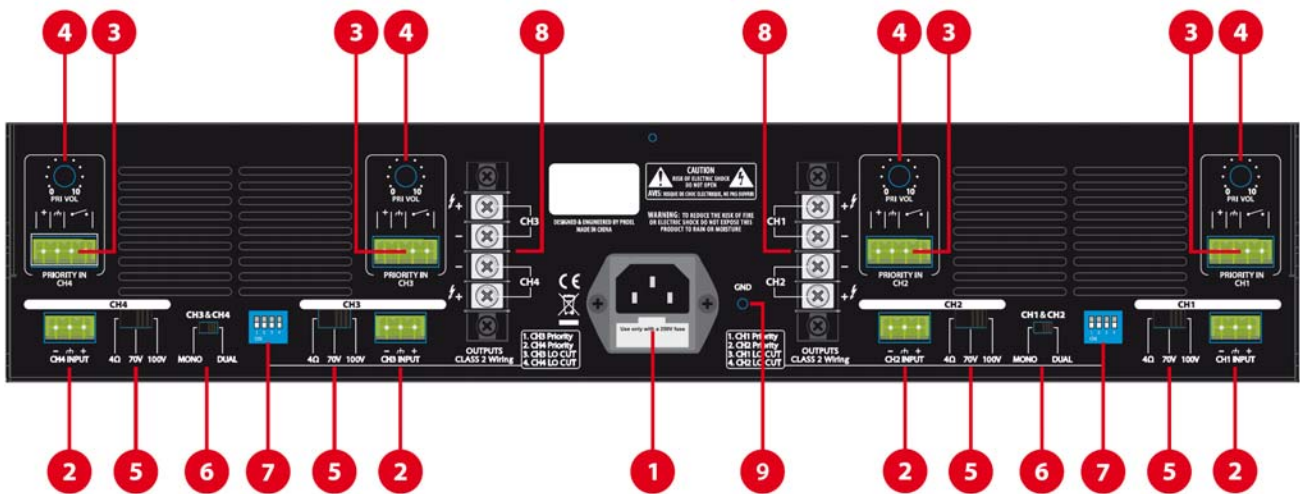

fig. 2
Connect loads having minimum electrical impedance of not less than 4Ω to the output terminal (**Fig. 2, Ref. 8**)
Connect loads of 70V to the output terminal (**Fig. 2, Ref.8**)
Connect loads of 100V to the output terminal (**Fig. 2, Ref.8**)
The priority input has a VOX function that can be connected and disconnected by means of the relative PIN (**Fig. 2, Ref. 7**):
VOX enabled – until the VOX circuit detects an audio signal on the input “PRIORITY IN CH_” (**Fig. 2, Ref. 3**), the relative “CH_ INPUT” input will be automatically muted and output will only have a priority signal.
“clean contact” - The priority input also has a “**clean contact**” that forces muting of the “CH_ INPUT” (**Fig. 2, Ref. 2**) input, leaving the “PRIORITY IN CH_” input active regardless of the PIN settings of the DIP SWITCH (**Fig. 2, Ref. 7**).
Connect the BM100A terminal to the priority input terminal board (**Fig. 2, Ref. 3**) according to the diagram reported under the base:
Operate this potentiometer to increase or decrease the audio signal level on the relative "PRIORITY IN CH_" (**Fig. 2, Ref. 3**).
In this operating status, connect a suitable power supply load to the output terminal (**Fig. 2, Ref. 8**) having minimum electrical impedance of not less than 4Ω
In this operating status, connect an adequately powered load of 100V to the output terminal (**Fig. 2, Ref. 8**)
In this operating status, connect an adequately powered load of 70V to the output terminal (**Fig. 2, Ref. 8**)
The signals on channel CH1 inputs will only be present on the CH1 amplified output (**Fig. 2, Ref. 8**). Similarly for CH2.
CH1&CH2 SELECTOR on MONO: In this status, both "CH1" and "CH2" outputs (**Fig. 2, Ref. 8**) will have the same amplified audio signal from the total of "CH1 INPUT" and "CH2 INPUT", the priority inputs "PRIORITY IN CH1" and "PRIORITY IN CH2", however, they will only operate and be present on their respective channels.
The signals on channel CH3 inputs will only be present on the CH3 amplified output (Fig. 2, Ref. 8). Similarly for CH4.
- CH3&CH4 SELECTOR on MONO:** In this status, both “CH3” and “CH4” outputs (Fig. 2, Ref. 8) will have the same amplified audio signal from the total of “CH3 INPUT” and “CH4 INPUT”, the priority inputs “PRIORITY IN CH3” and “PRIORITY IN CH4”, however, they will only operate and be present on their respective channels.
ON - enabled VOX priority operation on the relative “PRIORITY IN CH_” input (Fig. 2, Ref. 3).
OFF - disabled VOX priority operation on the relative PRIORITY IN CH_ input (Fig. 2, Ref. 3).
After selecting the operating mode (Fig. 2, Ref. 5), connect an adequate load to the respective output. Refer to paragraph 5 “**LOUDSPEAKERS CONNECTION**”.
Turn the operating method selector (Fig. 2, Ref. 5) to 4Ω.
Connect the constant impedance line (4Ω) between the two “+” and “-” terminals (Fig. 2, Ref. 8).
Turn the operating method selector (Fig. 2, Ref. 5) to 100V.
Connect the constant voltage line (100V) between the two “+” and “-” terminals (Fig. 2, Ref. 8).
Turn the operating method selector (Fig. 2, Ref. 5) to 70V.
Connect the constant voltage line (70V) between the two "+" and "-" terminals (**Fig. 2, Ref. 8**).